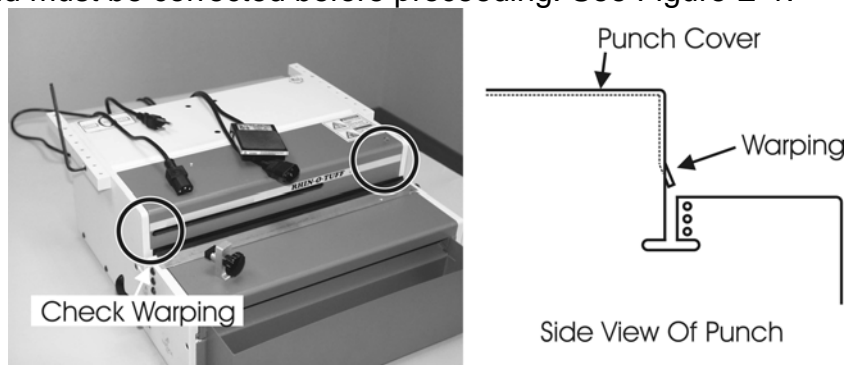

Fig E-1
- Check your HD-7000 or HD-6500 for front cover warping. Warping occurs over time and must be corrected before proceeding. See Figure E-1.